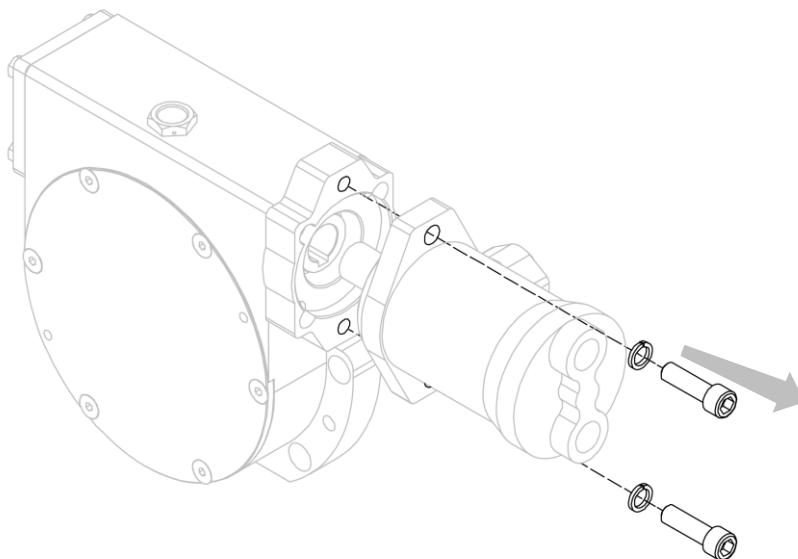

Figure 37
4. Separate the motor from the gearbox, after having removed the bolts that secure it (see *Figure 37*).